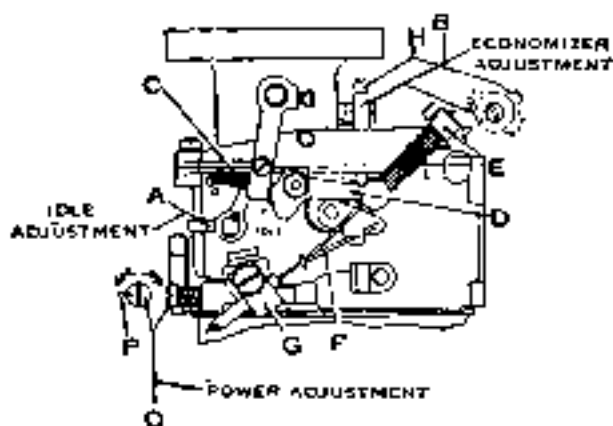

Fig. 12
Control Hook-Up.—The control hook-up should be made between the dash control tube clamp screw and clip (G, Fig. 12) and the dash control lever (D). The Dash Control should be so adjusted that when the button on the dash is pulled out in the "start" position the lever (D) is down as far as it will go. With the dash control in the "run" position adjust the clamp screw (E) on the wire on lever (D) so that the button sticks out on the dash about $\frac{1}{8}$ " to be sure that lever (D) is as high as it will go. On the $\frac{1}{2}$ " (Type U) be sure to thread control wire through the eye in choke wire (F) before running wire into dash control lever (D).
Idling Adjustment.—The motor should be thoroughly warmed up before adjusting the idle (A, Fig. 12). The spark and throttle should be fully retarded. Turning the end of lever (A) up leans the mixture and turning it down richens the mixture. The markings "R" and "L" on the body also show the rich and lean directions.
Economy Adjustment.—The factory setting of the economy adjustment (B, Fig. 12) is shown with the arrow mark on the adjustment in line with the arrow mark on the body. To lean the mixture turn the adjustment in the lean direction or counter-clockwise and to richen the mixture turn the adjustment in the rich direction or clockwise.
Power Adjustment.—The wide open throttle adjustment can be richened by turning power adjustment screw (O, Fig. 12) in (clockwise) and can be made leaner by turning it out (counter-clockwise).